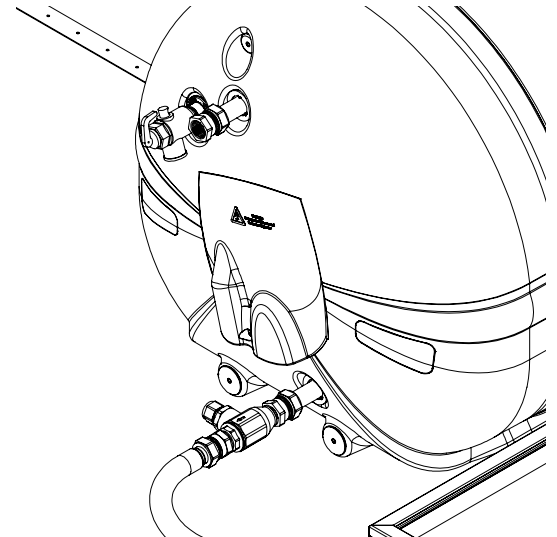

Figure 15. Connection end (open circuit)
26. Slide an Rp^{3/4}" compression union onto the hot outlet of the tank. Tighten the assembly. Insert the PTR valve supplied with the Parts Kit into the valve port in the tank (*Figure 15*).
- **Open Circuit System** – see Figure 15
2. Fill the closed circuit with water: connect a hose from the PTR valve drain line on the tank to the fill port on the bottom left of the collector array (see *Figure 15, page 11*). Open the fill port using the square key. Lift the test arm on the valve to fill the closed circuit.